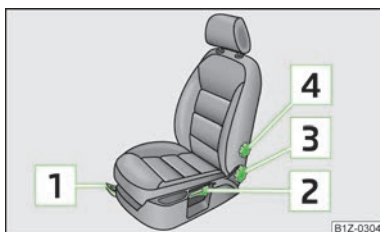

Fig. 40
- > Pull the lever  » Fig. 40 up and push the seat into the desired position.
- > To lift the seat, pull or pump the lever  » Fig. 40 upwards.
- > To adjust the angle of the backrest, relieve any pressure from the seat backrest (do not lean on it) and turn the handwheel  » Fig. 40.
- > Turn the hand wheel  » Fig. 40 until the most comfortable curvature of the lumbar support is achieved.